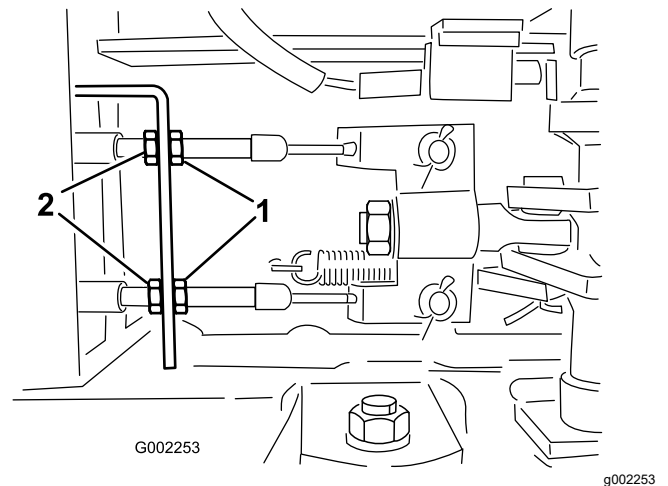

Figure 96
5. Loosen the front jam nuts on the brake cables under the front end of the sprayer (Figure 96).
6. Tighten the rear jam nuts equally until the brake pedal moves between 1 to 2 cm (1/2 to 1 inch) before you feel resistance (Figure 96).